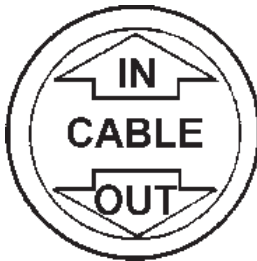

FIGURE 4.6
- (b) Lift vehicle to be towed by retrieving cable slowly with use of CABLE "IN-OUT" Control. See Figure 4.6.